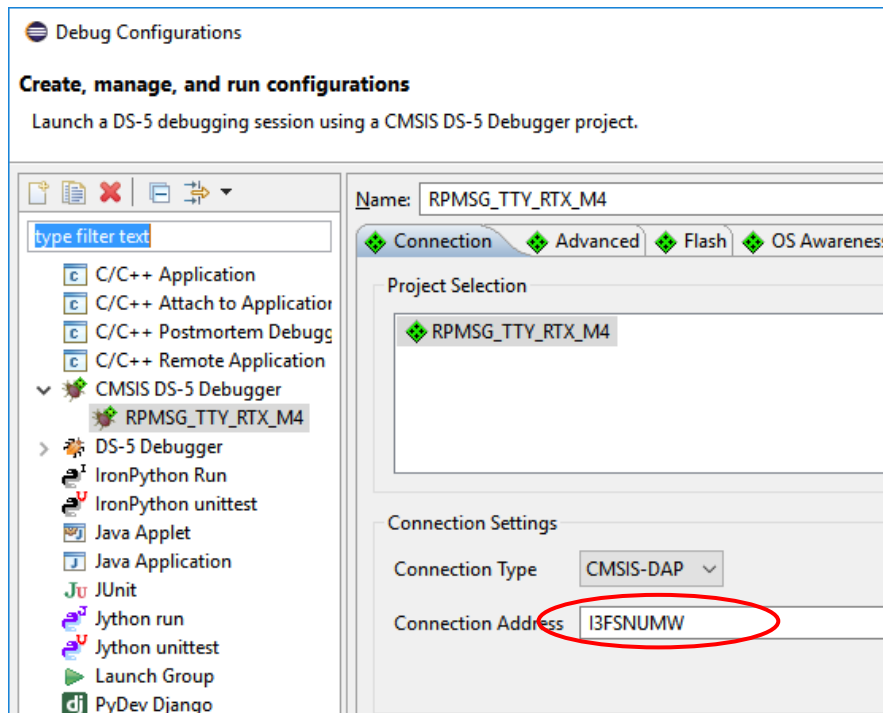

Figure 69 - DS-MDK Connection Address
- Copy this serial number and enter it into the "Connection Address" field in DS-MDK as shown in Figure 69.